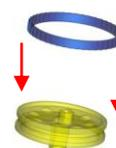
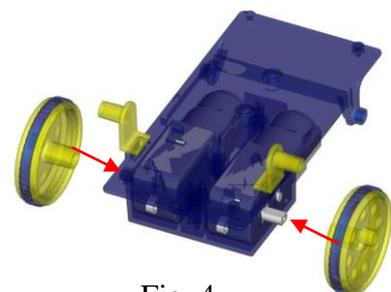

Fig. 3
Fig. 4
2. Put the wheel rings (14) over the front wheels (4) and attach them to axles of the chassis (1). (Fig. 3, Fig. 4)